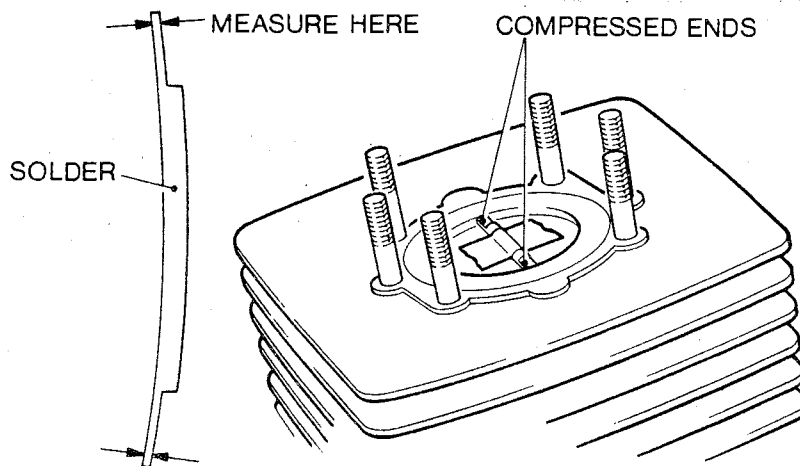

Figure 1.4b - Measuring Squish Area
5. Remove cylinder head. (See Figure 1.4b).